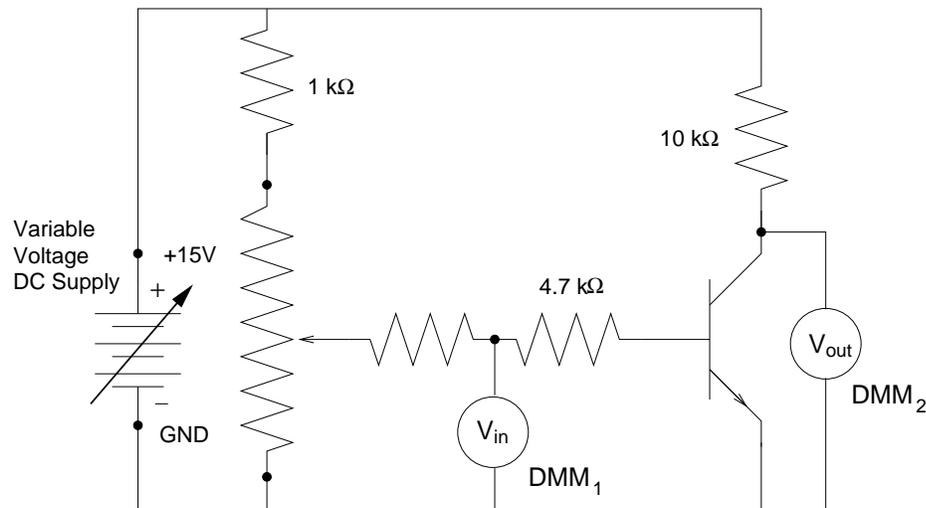

Figure 3
3. *VOLTAGE Amplification*: By adding a large load resistor in series with the collector, one can convert the current amplification β observed earlier into a voltage amplification. Hook up the circuit plug board as in Fig. 3.